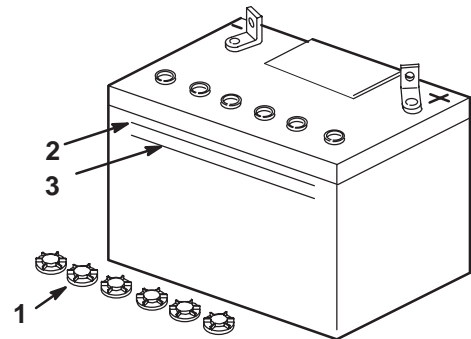

Figure 2
3. Remove the vent caps from the battery (Fig. 2).
4. Slowly pour electrolyte into each battery cell until the level is up to the upper line on the battery case (Fig. 2).
5. Wait five to ten minutes after filling the battery cells. Add electrolyte, if necessary, until the electrolyte level is up to the upper line on the battery case (Fig. 2).